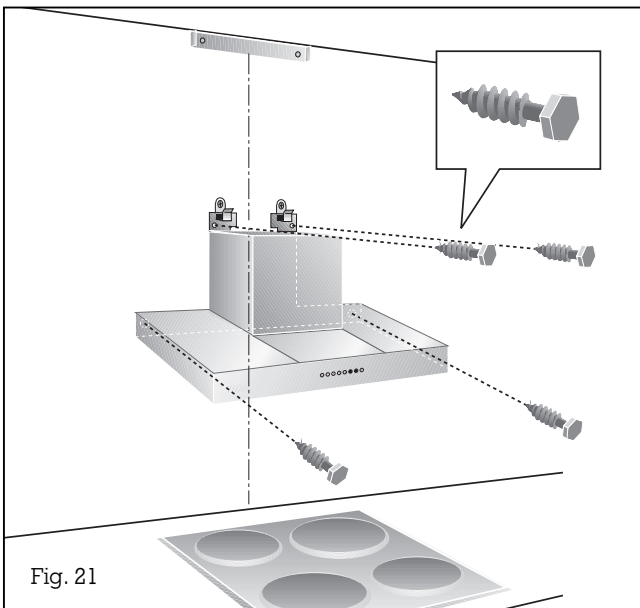

Fig. 21
- Secure the hood on the wall with the four screws **b** (Fig. 21).